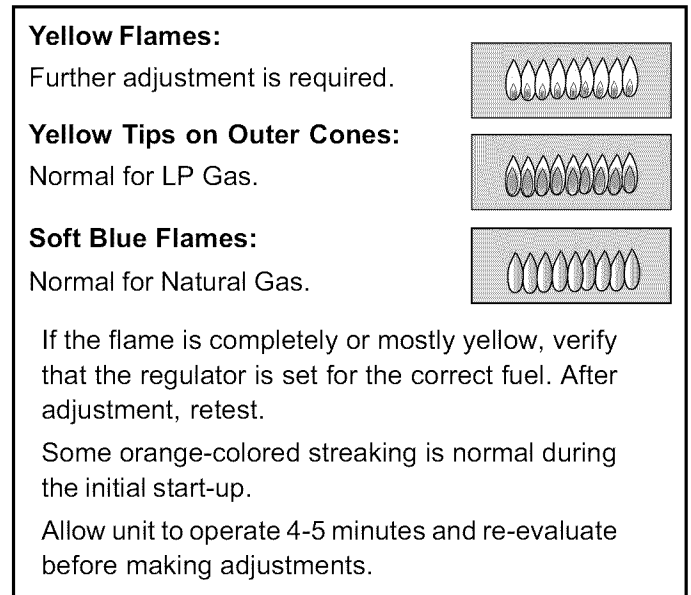

FIGURE 28: FLAME CHARACTERISTICS
Test Flame: High Setting. Turn burner on to HI. See *Figure 28* for appropriate flame characteristics.
While the bake burner is lit inspect the flame. See *Figure 28 on page 25* for proper flame characteristics. If the flame burns completely or mostly yellow, it is necessary to adjust the bake burner air shutter, see the Flame Adjustment procedure in the following section.
- Repeat procedure as needed until flame characteristics are acceptable (see *Figure 28 on page 25*).